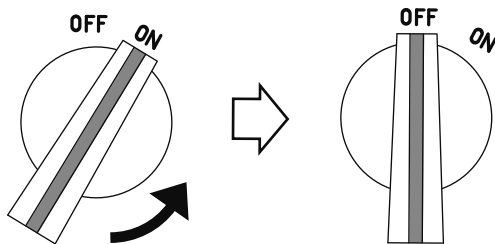

Fig.24
- 2 Turn the engine switch to the "OFF" position. (Fig. 24)